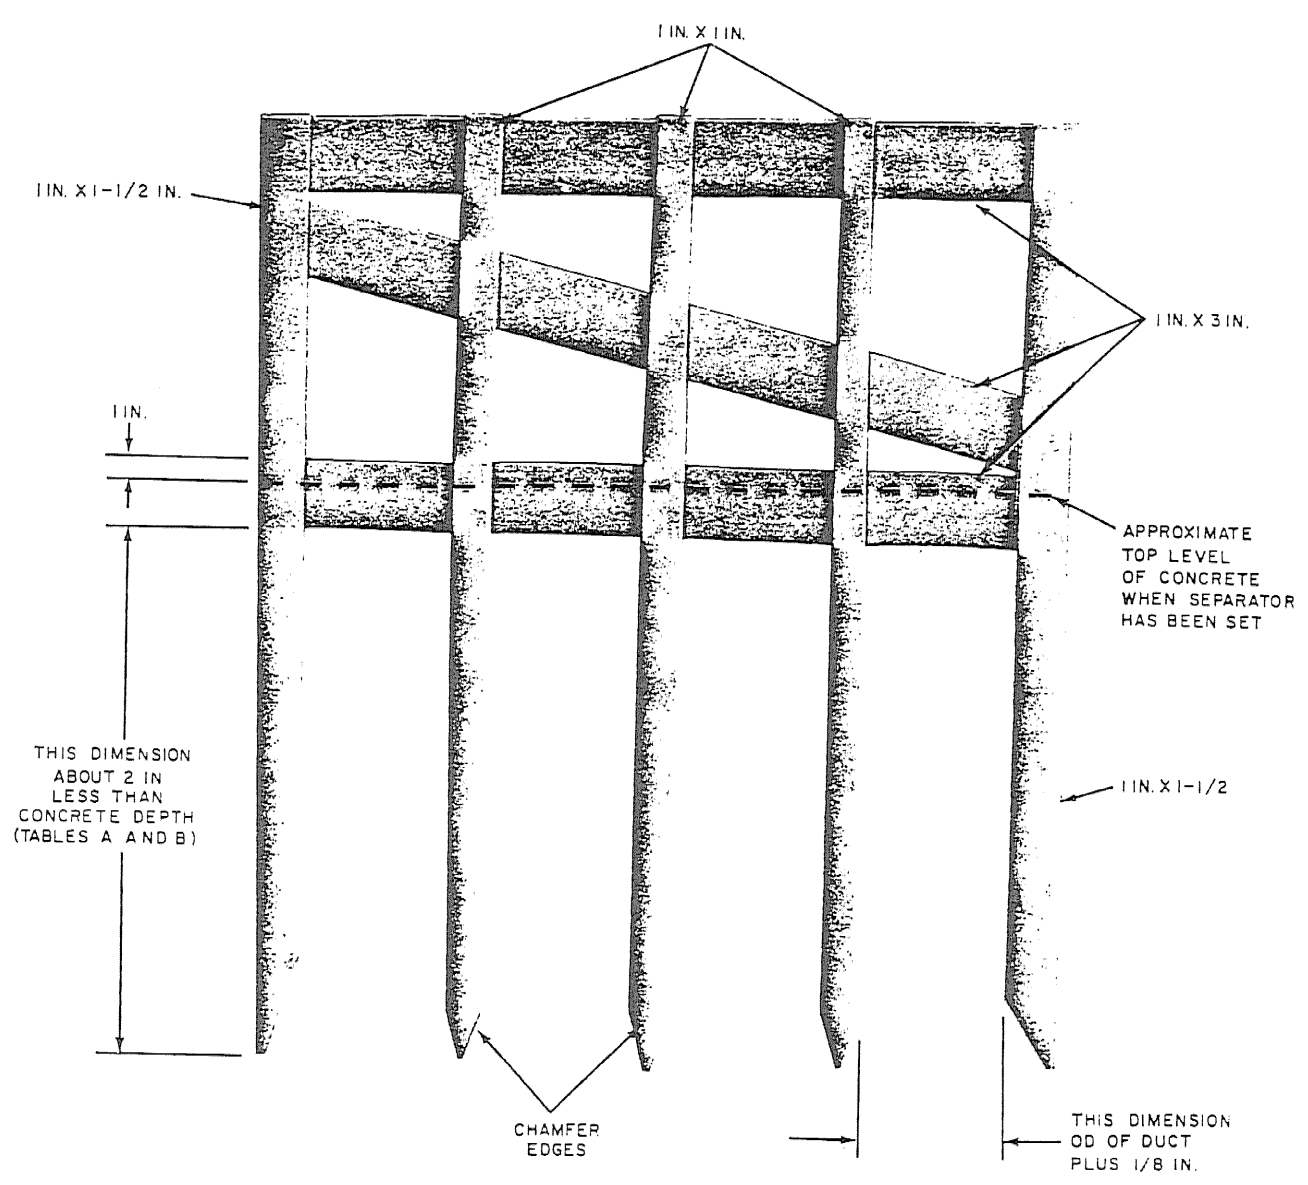

Fig. 6—Fork-Type Separator
5.05 In straight sections up to and including three tiers high, stack the ducts one upon the other with no vertical separation. A minimum separation of 1 inch between vertical columns is obtained by use of temporary fork-type separators (Fig. 6). A monolithic (single pour) concrete encasement may be made with this duct formation.
(1) Place a wood or plastic strip approximately every 4 feet along the trench bottom so as to provide a minimum of 1-1/2 inches of clearance between the first tier of ducts and the trench bottom.
(2) Build up the duct structure in full formation; i.e., when each tier of full lengths is laid 20 to 60 feet in the trench, place the second tier, and then the third tier. As the ducts are laid, do not follow deviations in trench alignment to maintain side clearance. Lay the duct as straight as possible, even though it may reduce side clearance for short distances. This is important to ensure against excessive pulling loads when placing cable.
(3) To provide the required horizontal separation between vertical columns of ducts, and from the trench sidewalls during construction, place locally fabricated separators. These should be on not more than 8-foot centers (Fig. 6).